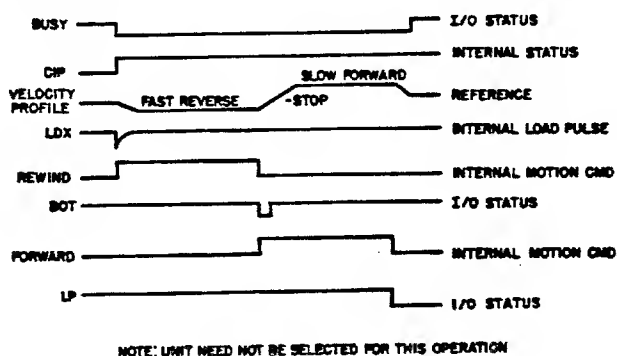

Figure 3-2. Cartridge Loading Operation, Timing Diagram
The timing of the I/O signals, required for the basic tape motion operations, is shown in figures 3-2 through 3-6. These diagrams illustrate the correct sequencing and relationship of the I/O signals. The basic tape operations can not take place until a tape drive has been selected.
3.7.1 Load (Fig. 3-2)